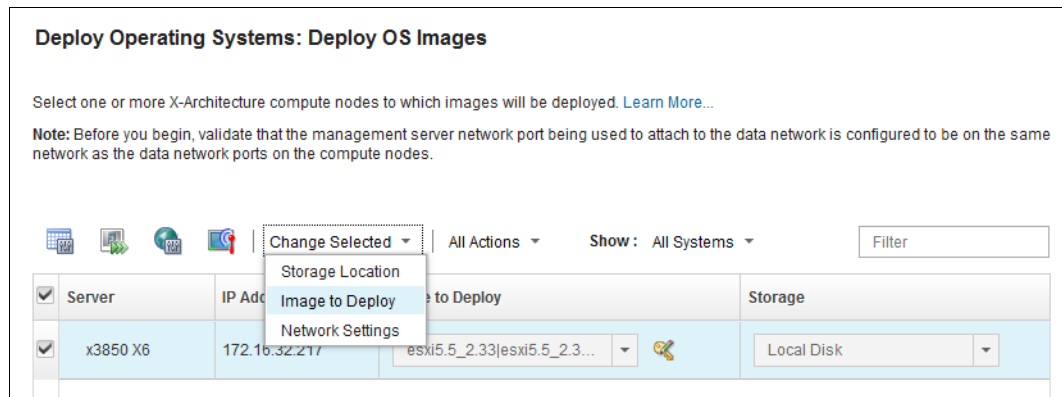

Figure 6-9 Change Selected drop-down menu
3. If you must change the OS image, select **Change Selected** → **Image to deploy**, as shown in Figure 6-9.